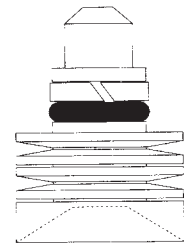

Figure 3b
- ii. The orifice assembly for a *balanced* first stage should appear like *Figure 3b.*, and must have the spring washers (items 10) installed. Verify the correct spring washer orientation as shown.
Wrong orifice (item 8) used with spring washers (item 10).	Only orifice GF2-08 may be used with spring washers. See Figure 3b, for visual reference of orifice GF2-08.